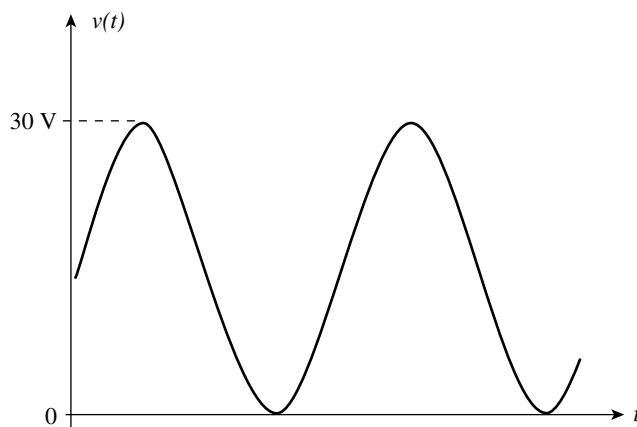

FIGURE 25–46
2. Repeat Problem 1 if the waveform of Figure 25–47 is applied to a $250\text{-}\Omega$ resistor.